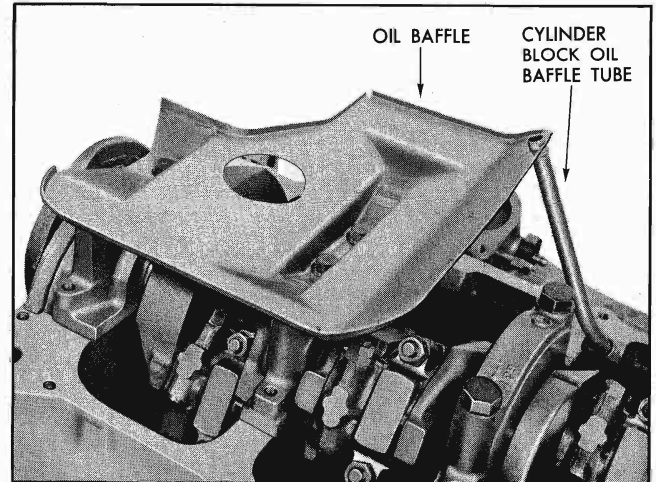

Fig. 6-65 Engine Oil Baffle and Tube Assembly
3. Remove oil baffle and cylinder block to oil baffle tube (Fig. 6-65).